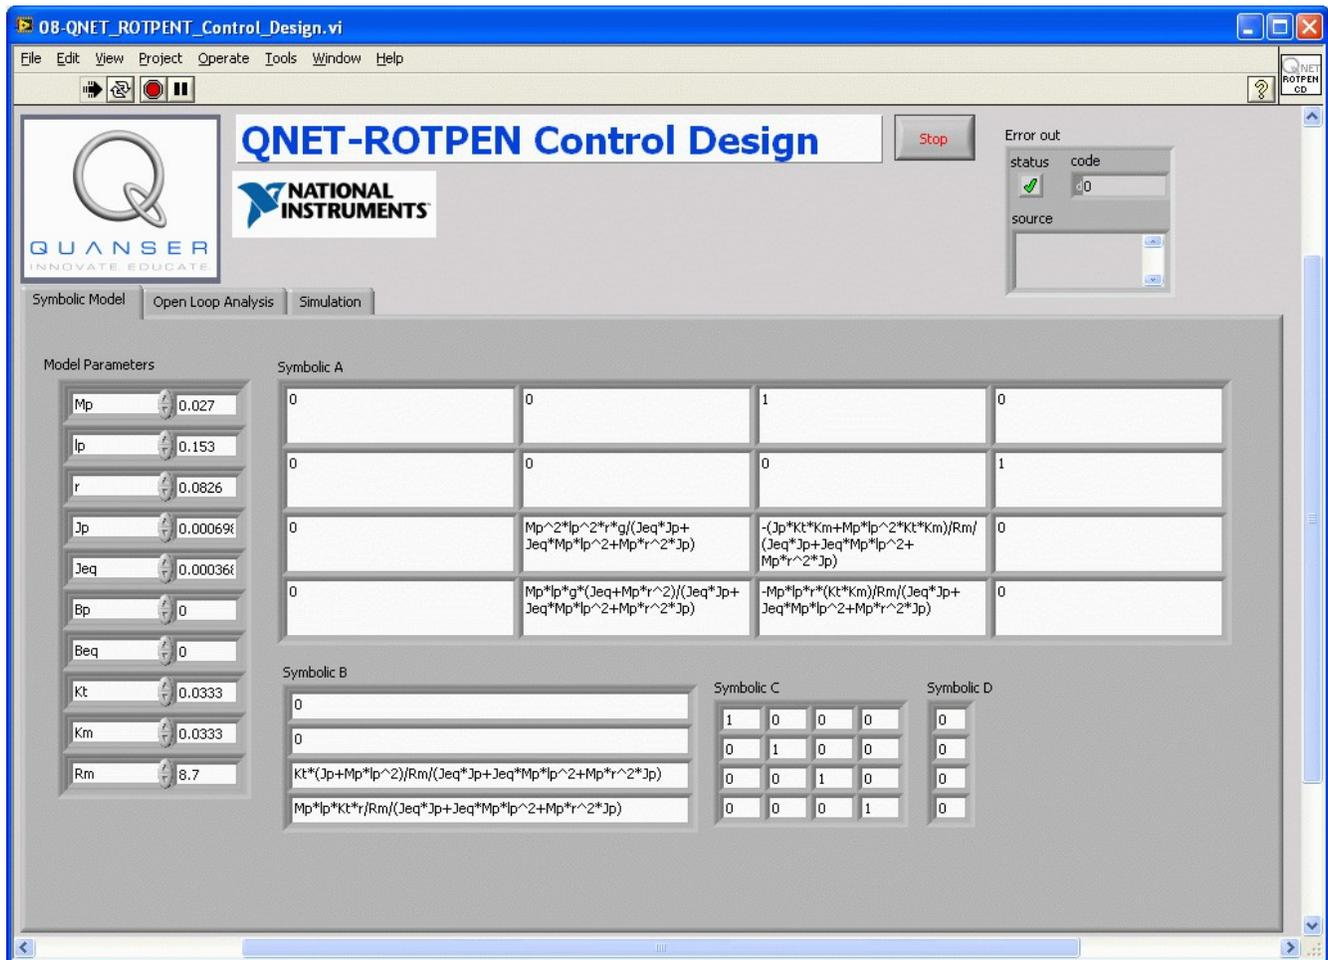

Figure 9: QNET ROTPEN trainer control design VI: Symbolic Model tab.
1. Open the QNET_ROTPEENT_Control_Design.vi, shown in Figure 9.